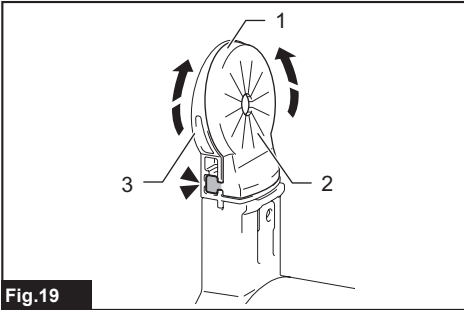

Fig.19
► Fig.19: 1. Rubber edges 2. Sealing cap 3. Nozzle head